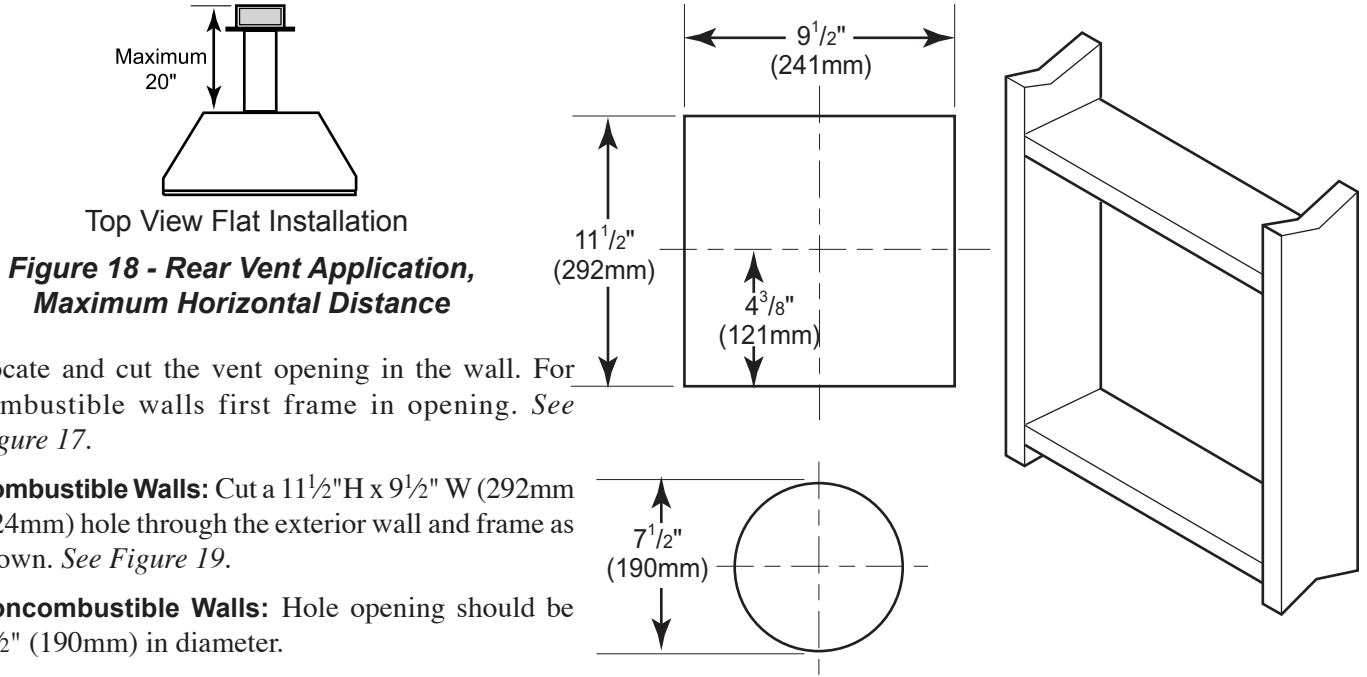

Figure 18 - Rear Vent Application, Maximum Horizontal Distance
- The maximum horizontal distance between the rear of the appliance and the outside face of the outside termination is 20" (508 m). See Figure 18.